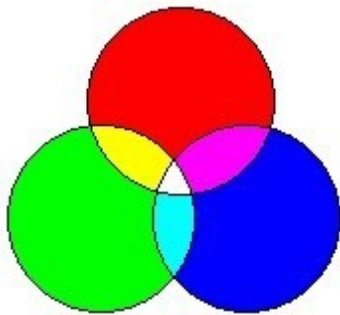

Figure 12-6: Making New Light Colors by Mixing the 3 Primary
We can get other colors by mixing the three primary colors of Red, Green, and Blue. The intensity (proportion) of the colors mixed can also affect the color we get. In many high-end graphics systems, an 8-bit value is used to represent the intensity. Its value can be between 0 and 255 (0 to 0xFF) representing high intensity (255) and zero intensity. See Table 12-2. Using three primary colors and intensity, we can make many colors we want. See Figure 12-6.